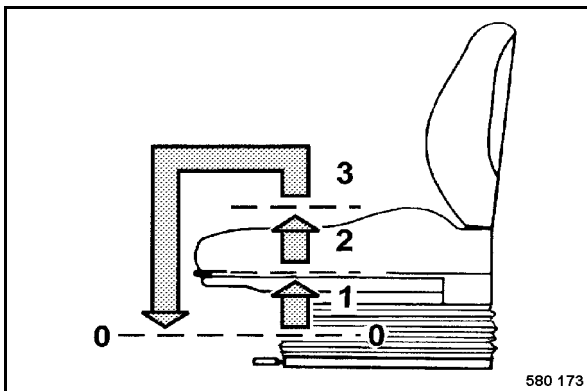

Fig. 72
- To adjust the height of the seat lift the seat up (Fig. 72) until it engages at the desired level.